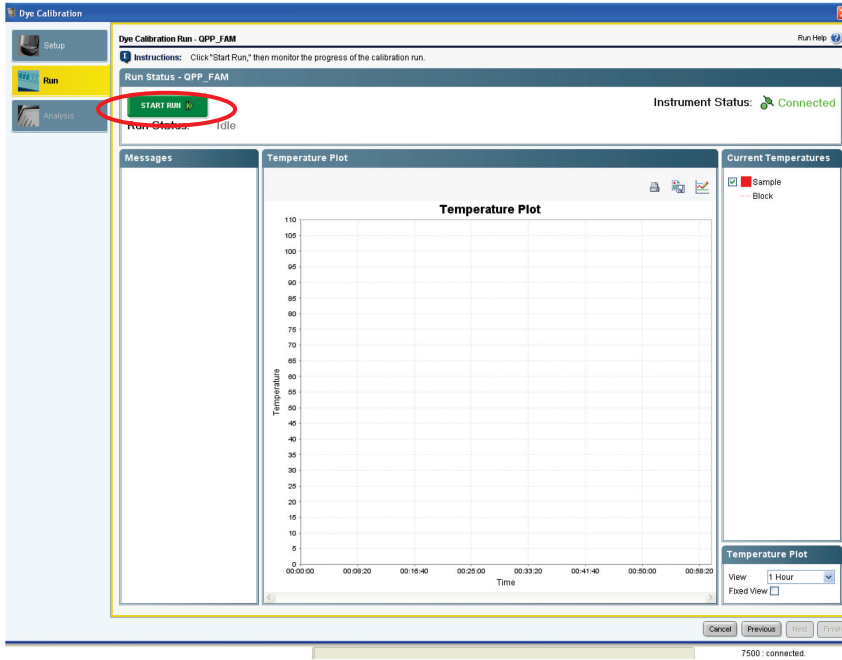

Figure 20. Starting calibration run.
19. Click **Next** and then **Start Run** (Figure 20).